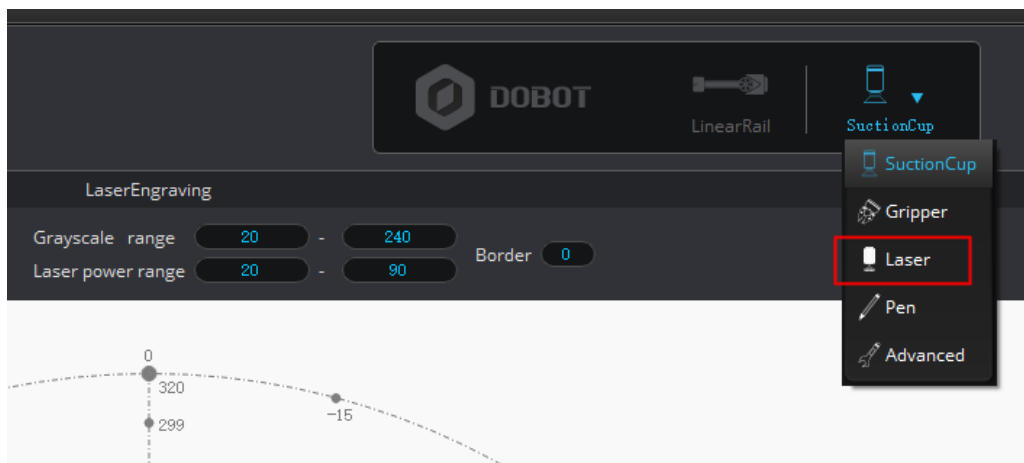

Figure 5.82 Choose Laser as the end-effector
Step 1 Choose **Laser** as the end-effector on the **LaserEngraving** page, as shown in Figure 5.82.